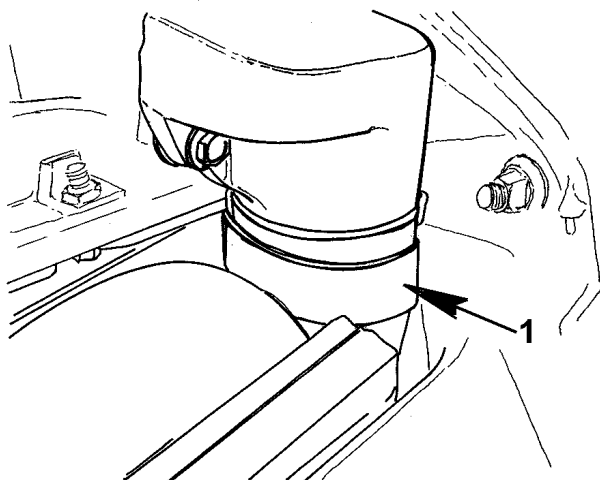

Figure 15 Driver Side Engine Hose Connection
3. The entire hose connection does not have to be removed to remove radiator. If the existing hose is to be replaced, the SB tool must be used on the opposite end of hose with SB clamp (Item 1, Figure 15)